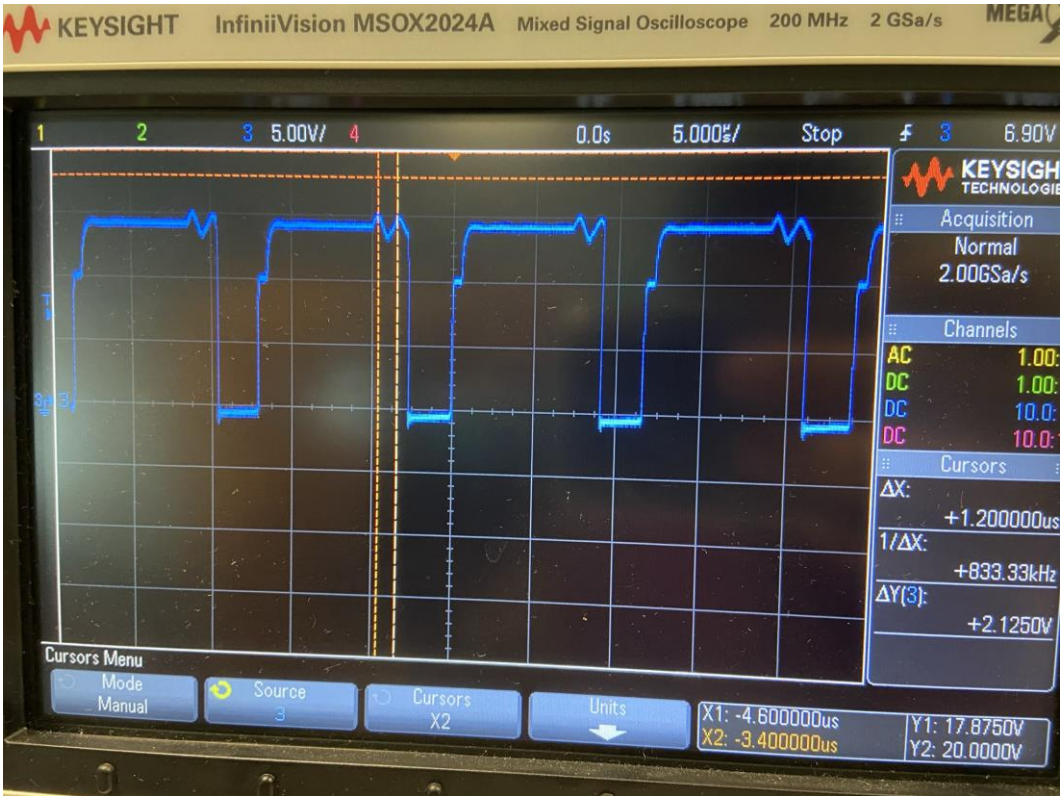

Figure 11: The waveform before adding snubber circuit.
- As we can see in figure 11 and 12, it shows that the spike in the waveform is smaller and almost disappeared by applying C5 and R2